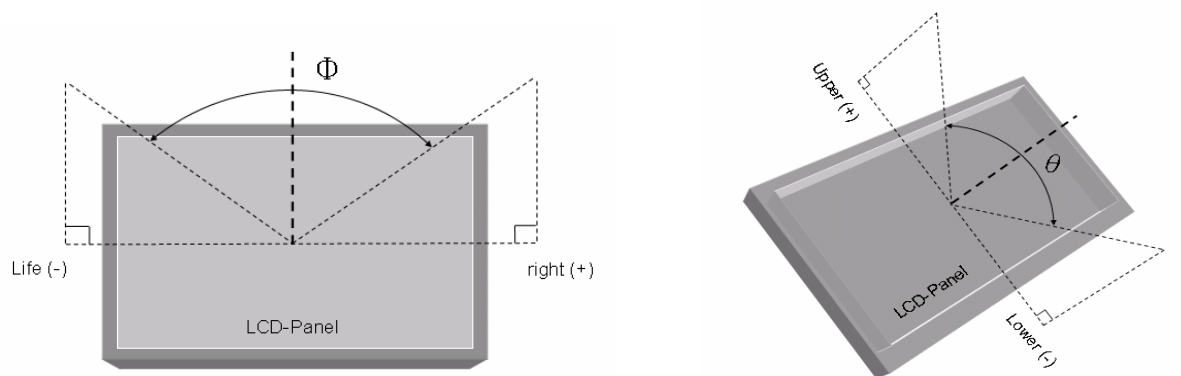

Fig9-2 Definition of Viewing Angle
*3) Definition of Viewing Angle(θ, ψ), refer to Fig9-2 as below : (in the dark room.EZ-CONTRAST (ELDIM))